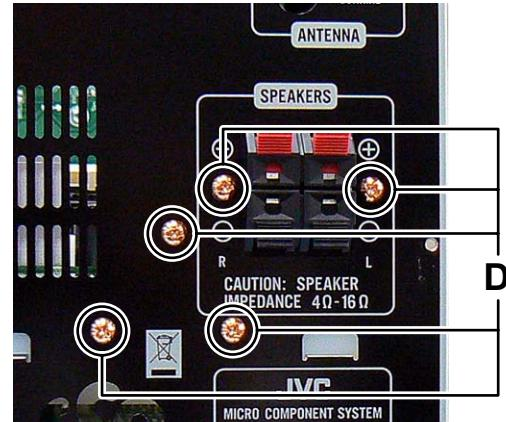

Fig.5
3.1.3 Removing the Rear panel (See Fig.5)
(See Fig.5 and 6)
- (1) Remove the two screws **D** attaching the CD servo board from bottom side of traverse mechanism assembly. (See Fig.5)
- (2) Remove the solder from solder part **e** of the CD servo board. (See Fig.5)
- (3) Remove the yellow wire from solder part **f** of the CD servo board. (See Fig.5)
- (4) Remove the white wire from solder part **g** of the CD servo board. (See Fig.5)
- (5) Remove the CD servo board to upper side, disengage the hook **c** to direction of the arrow 1 then turn over the CD servo board. (See Fig.5)